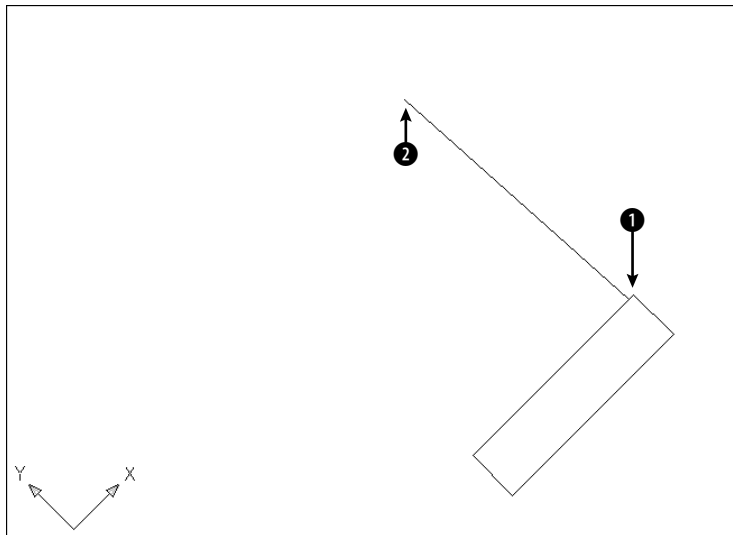

Figure 8-22: Starting to draw the framework for the bearing housing drawn by using a customized UCS.
6. Start the LINE command. At the Specify first point: prompt, choose the From object snap. At the Base point: prompt, use the Endpoint object snap to pick point ❶ in Figure 8-22. At the <Offset>: prompt, type **@-1/8,0** ↵. At the Specify next point or [Undo]: prompt, type **@5-3/16<93.3** ↵. End the LINE command.
Base point: *Use the Endpoint object snap to pick point ② in Figure 8-22.*